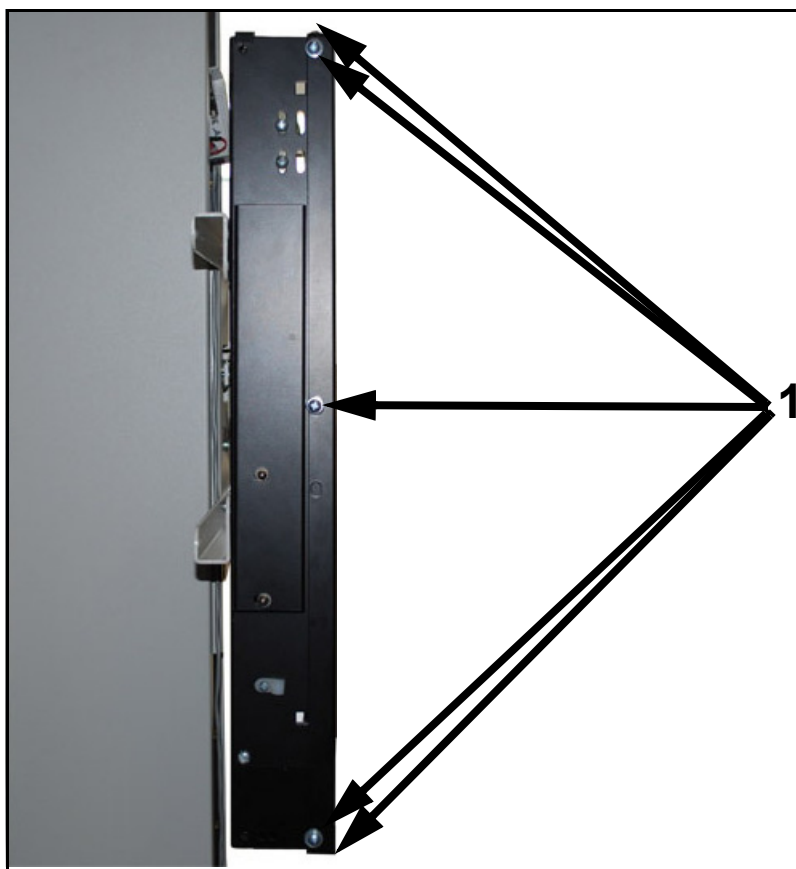

Figure 5-17. ION Chamber Cover Screws
- 16** Reattach the right face plate holder with the five screws (1 in Figure 5-17).